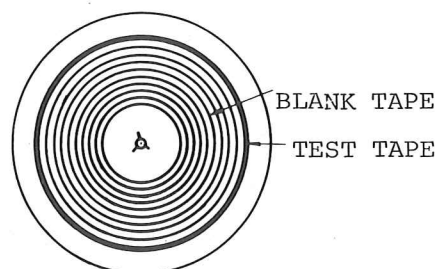

Fig 4-2 Test Tape Loading
Since tape tension affects tape speed, it is important for accurate measurement that the flutter test tape used is attached to the end of a full reel of blank tape as shown in Fig. 4-2, and is used with the REEL pushbutton set to the appropriate reel size.
4. Attach the test tape to a 10 1/2 inch NAB reel as shown in Fig. 4-2, place the test tape on the supply reel table, thread the tape, and set the REEL switch to the LARGE position.
It is important that the flutter test tape used is attached to the end of a full reel of blank tape as shown in Fig. 4-2, and is used with the REEL pushbutton set to the appropriate reel size.
4. Attach the test tape to a 10 1/2 inch NAB reel as shown in Fig. 4-2, place the test tape on the supply reel table, thread the tape, and set the REEL switch to the L position.